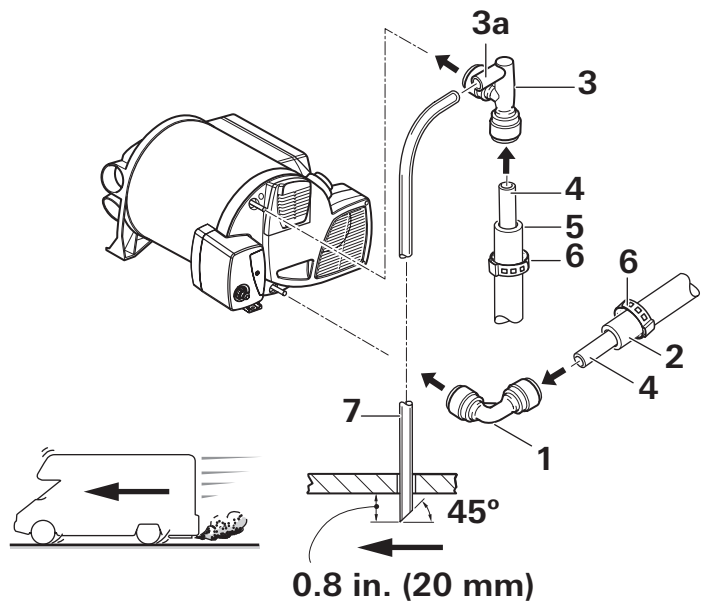

Fig. 33
1. Insert the prepared 1/2 in. CTS cold water line with adaptor (Fig. 33 – 2) into the elbow fitting (Fig. 33 – 1) until it fits snugly.
2. Insert the elbow fitting (Fig. 33 – 1) into the lower connection (cold water supply) of the water container until it fits snugly.
1. Insert the prepared 1/2 in. CTS hot water line with adaptor (Fig. 33 – 5) into the elbow fitting (Fig. 33 – 3) until it fits snugly.
2. Insert the elbow fitting (Fig. 33 – 3) into the upper connection (hot water outlet) of the water container until it fits snugly.
2. Slide the venting hose (Fig. 33 – 7) onto the hose nozzle of the aeration valve (Fig. 33 – 3a).
3. Angle the venting hose (Fig. 33 – 7) downward, ensuring there are no kinks.
4. Make sure that the venting hose extends only 0.8 in. (20 mm) beneath the RV's undercarriage. Cut the end of the hose at a 45-degree angle (Fig. 33).